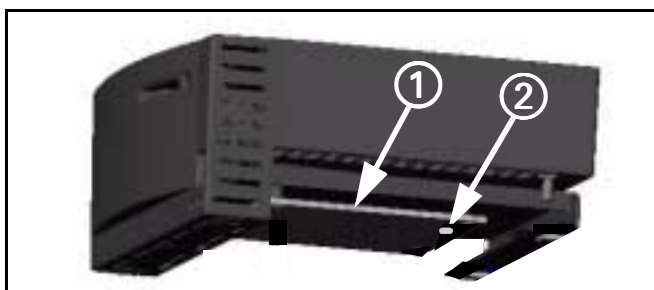
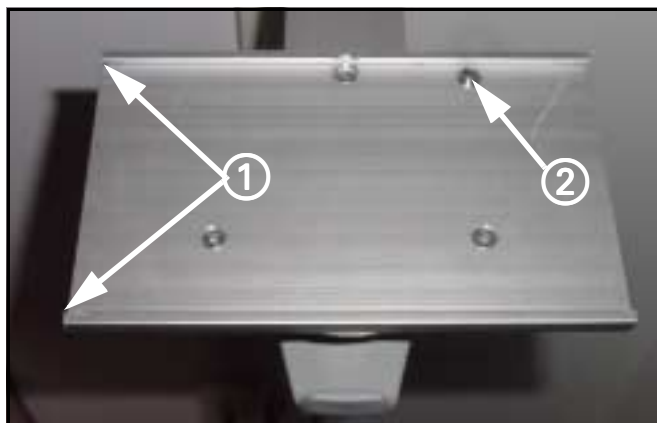

Figure 9-1 Mounting plate
Figure 9-2 Mounting bracket
2. Align mounting plate (① in Figure 9-1) on bottom of MDS to slots (① in Figure 9-2) on left side of mounting bracket.
3. Pull down and hold spring loaded locking pin (② in Figure 9-2), and slide in MDS to align hole on mounting plate (② in Figure 9-1) with locking pin.